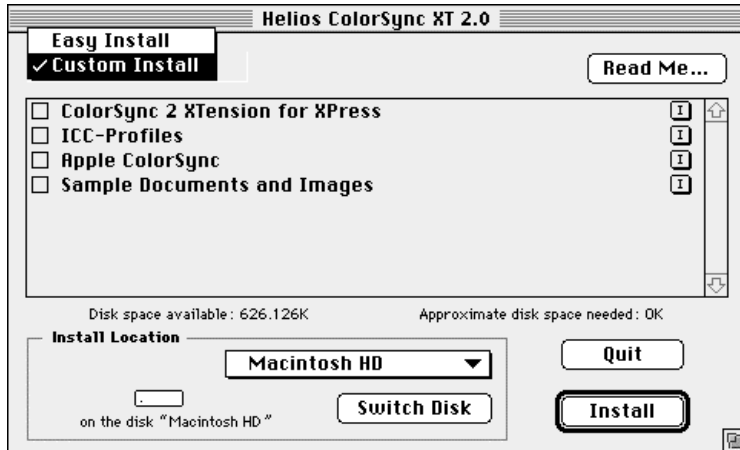

Fig. 5: The **Install** dialog
- In the **Install** dialog — which is shown in figure 5 — you have to make two decisions:
Figure 5 shows the **Install** dialog with **Custom Install** selected. The software package is divided into four items.